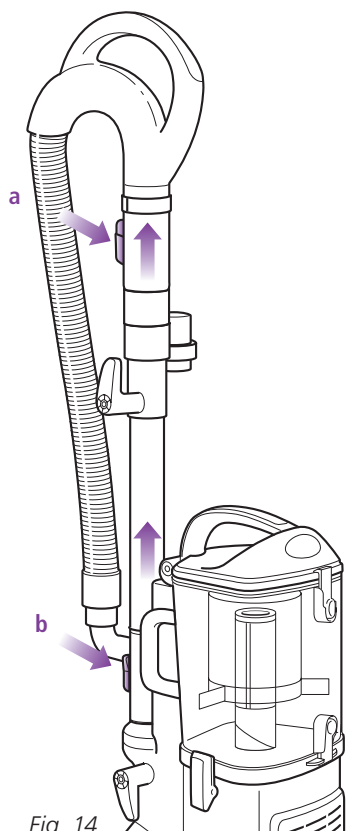

Fig. 14
- 2 Press the handle release button **(a)** and pull the handle up or press the extension wand release button **(b)** and pull the extension wand up. (Fig. 14)